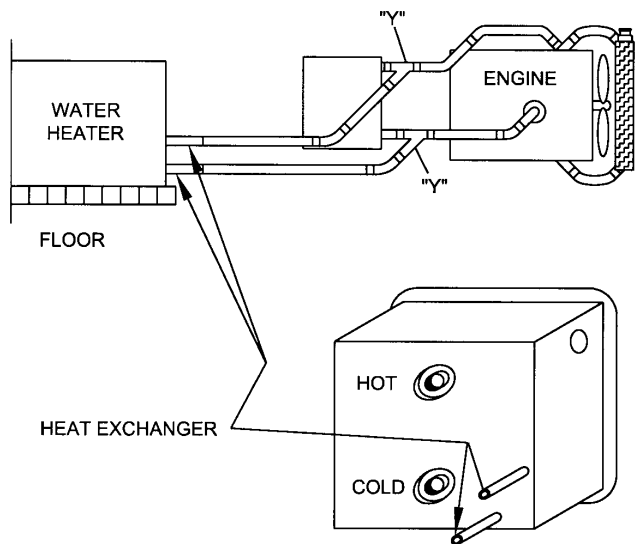

Figure 9
- Place copper "Y"s in heater as shown in Figure 9.